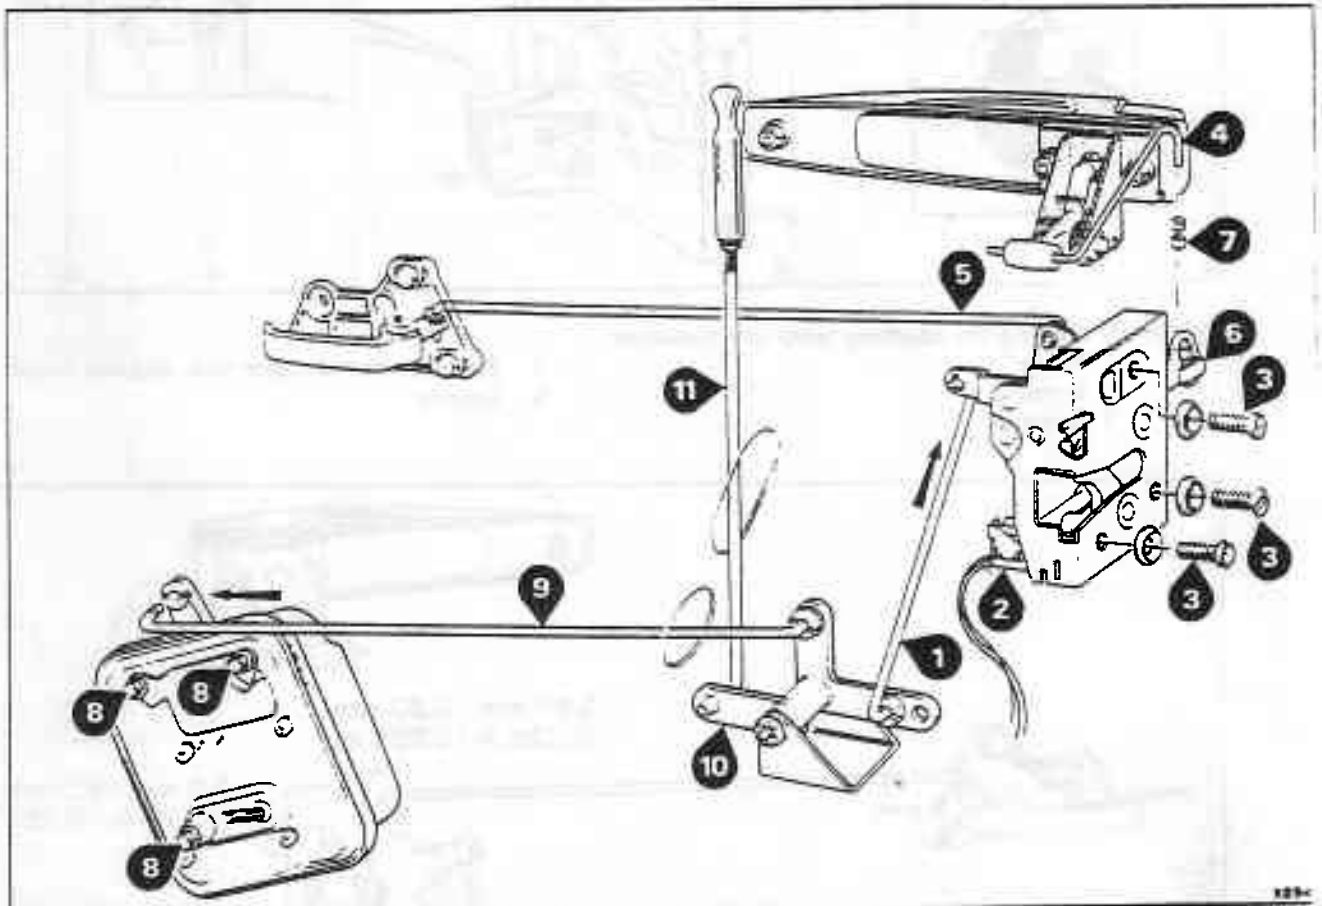

Fig. S4-17 Door locking - General arrangement
2. Disconnect the relay lever to lock link rod at the relay lever (see fig. S4-17, item 1).
3. Disconnect the plug and socket of the micro-switch (item 2).
4. Remove the three setscrews and washers securing the lock to the rear edge of the door (item 3).
Also, fit a new plastic connector (see fig. S4-17, item 6).
4. Place the lock into the door and press the relay lever link rod into position (see fig. S4-17, item 1).
5. Manoeuvre the lock and fit the interior door handle control rod (see fig. S4-17, item 5).
6. Position the lock into its correct location. Ensure that the exterior handle control rod, with two spacers, engages into the plastic connector on the lock (see fig. S4-17, items 4,6, and 7). Hold the spacers in position with Rocol MTS 1000 grease or its equivalent.
7. Using three M6 setscrews and special washers, secure the lock to the door (see fig. S4-17, item 3). Torque tighten immediately to between 5,5 Nm and 6,5 Nm (0,55 kgf m and 0,65 kgf m; 4.1 lbf ft and 4.8 lbf ft).
If the overtravel is incorrect, release and lower the lock and amend the number of spacers on the control rod (see fig. S4-17, items 4,6, and 7).
1. Loosen the three solenoid adjustment screws (see fig. S4-17, item 8 and disconnect the relay lever link rod (item 1).
2. Press the lock to relay lever link rod into position (see fig. S4-17, item 1).
3. Press the solenoid link rod (item 9) into the relay lever assembly. Press the door lock and solenoid lever into the locked position (see fig. S4-17, arrows).
4. Align the link rod (item 9) with the hole in the solenoid lever by moving the solenoid assembly in the